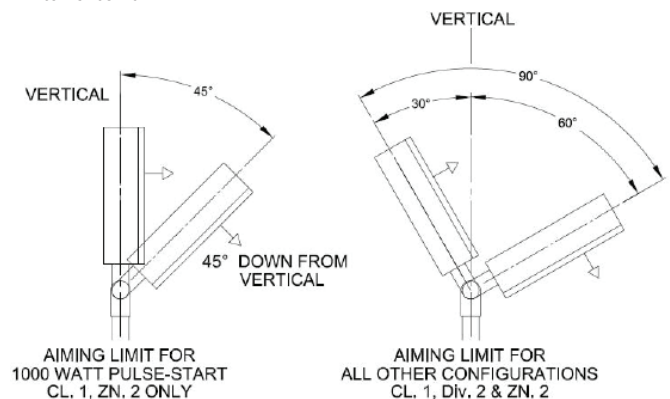

Figure 3
- To make final vertical adjustment, loosen pivot bolts (2) on floodlight yoke and position to desired vertical angle. Check to make sure the vertical angle is within the aiming range shown (see Figure 3). Securely tighten both pivot bolts.
- Tighten the sealing cord connector around the SOW cord so that the cord is held securely in place. Place the ballast assembly cover back over the ballast assembly area and fasten in place with the four (4) screws.
- To make final vertical adjustment, loosen the two (2) pivot bolts on the floodlight yoke to position floodlight at the desired angle (within the acceptable aiming range limits). See Figure 3. Tighten the two (2) pivot bolts to 45 lbs.-ft.